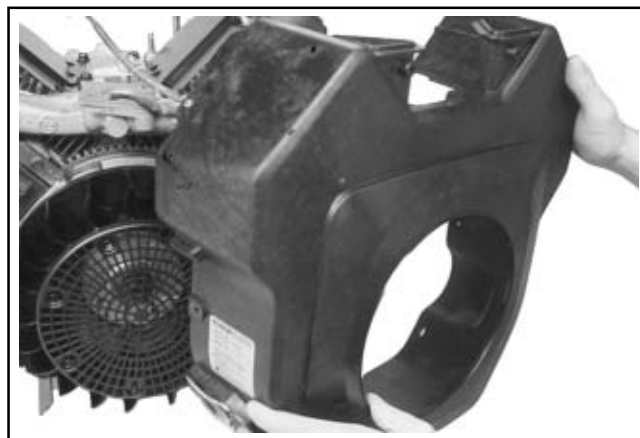

Figure 11-61. Installing Blower Housing.
2. Slide the blower housing into position over the front edge of the inner baffles. See Figure 11-61. Start a few of the screws to hold it in place.